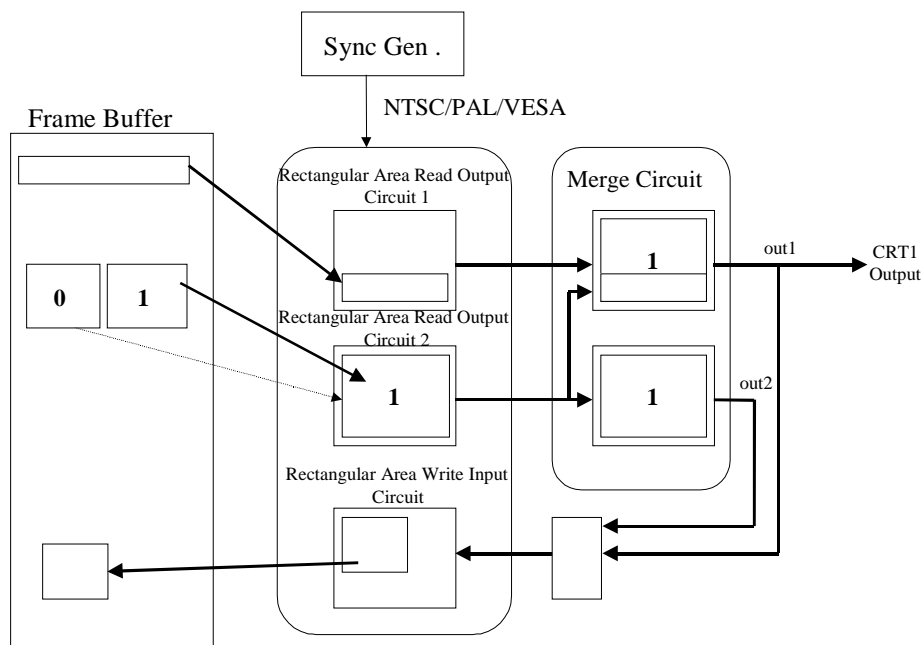

Figure 5-2 PCRTC Merge Circuit
- There are two independent rectangular area read output circuits. Input area, input pixel format, output resolution, output size, output screen position, etc. can be set independently. Also, two output images can be alpha-blended with BGColor and output using the built-in merge circuit (see Figure 5-2).